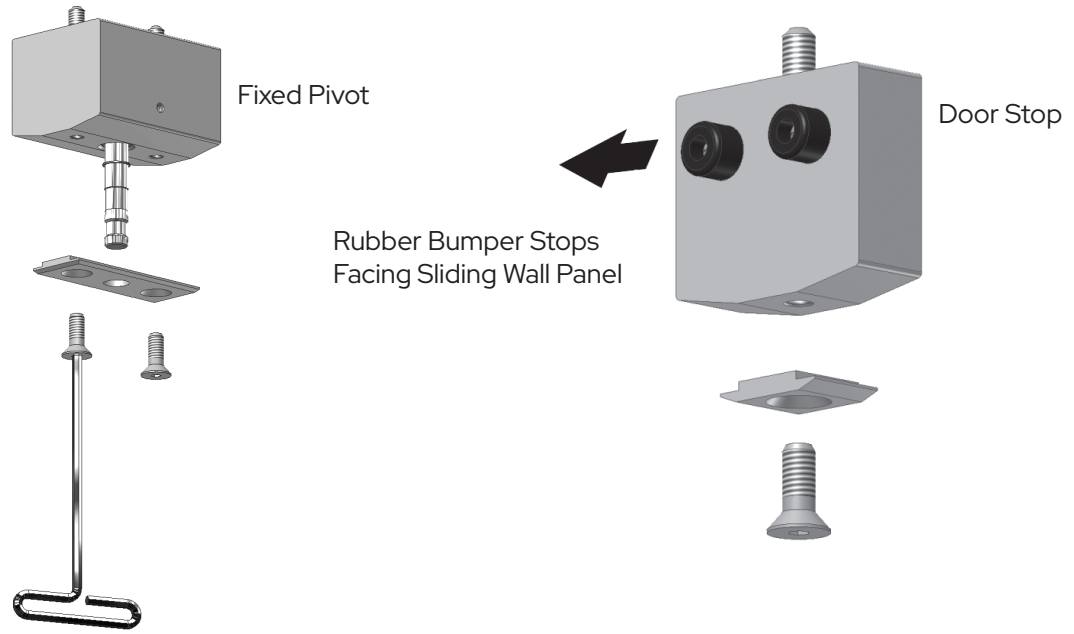

Figure 4
**NOTE:** Sliding Wall Panels must not be allowed to hit the end of Pivoting Doors. To prevent this from happening a Stop must be installed between the free-swinging end of Pivoting Doors and adjacent Sliding Wall Panels (Fig. 4).